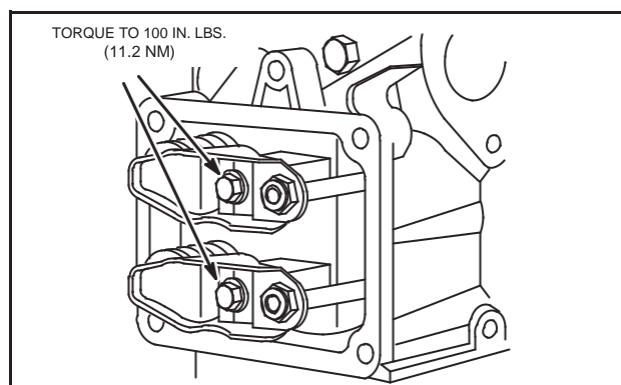

Fig. 21 - Install Rocker Arms
4. Assemble rocker arms and supports to cylinder head, Fig. 21. Apply Loctite[®] 242 or similar sealant to threads.